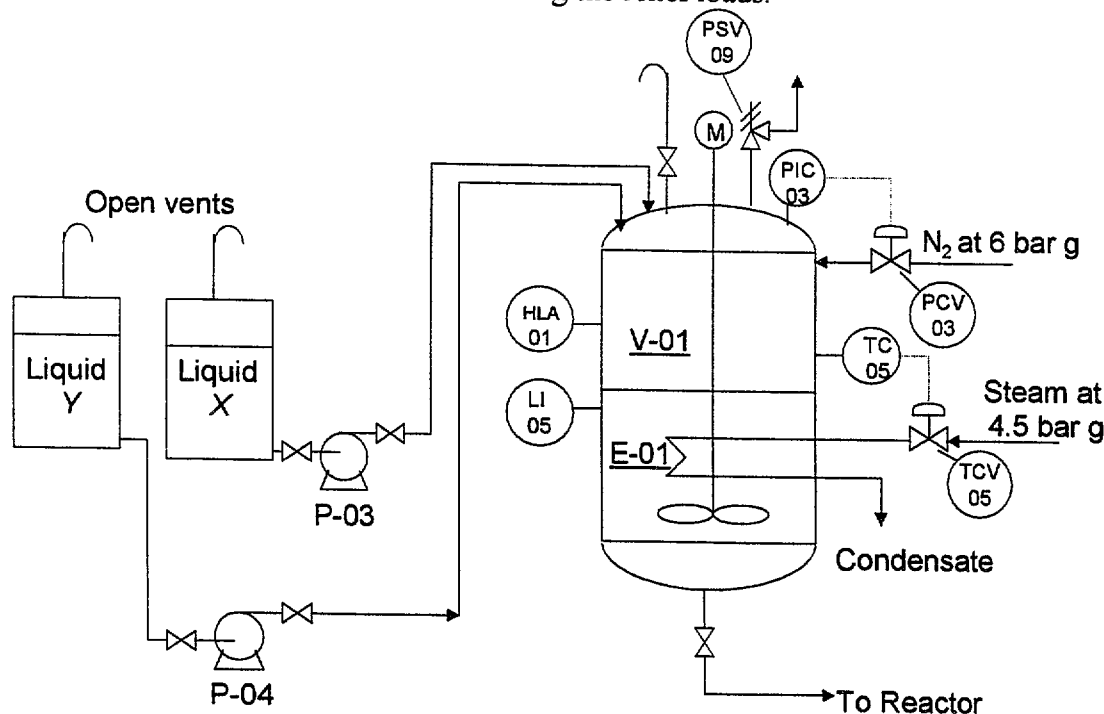

Figure 2. Process flow diagram of batch process preheating vessel, and includes normal operating conditions.
- Figure 2 shows a flow diagram of a batch process vessel V-01 used for mixing two miscible liquids, X and Y and preheating them to 80°C before transferring the mixture to a reactor. The design pressure of the feed preparation vessel V-01 is 3.5 barg and full vacuum.